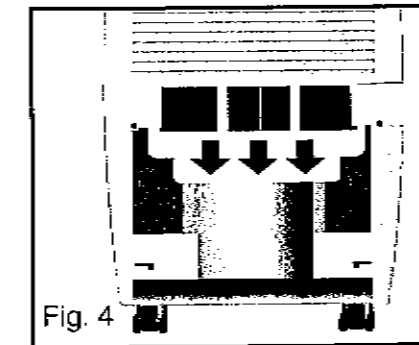

Fig. 4
3. Pull the filter handle (downward) in the direction of the arrows. See fig.4